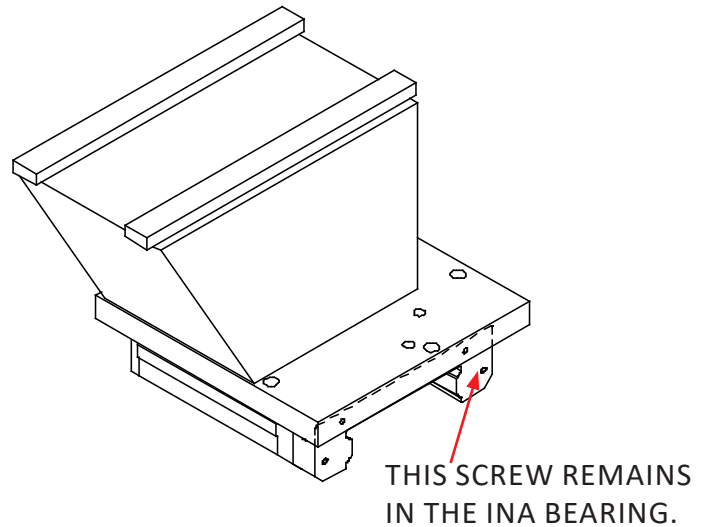

FIG. 4
4. See FIG. 4 which illustrates which parts to return to Foley United. Make certain the bearing shipping guide is in place and then wrap the assembly in heavy paper and tape. Package the two magnet assemblies in a very sturdy shipping container with adequate filler material around and between the magnet assemblies. Note: the magnet assemblies weigh approximately 30 lbs. each and have sharp edges. Make sure to package accordingly.
8. Now reinstall the lock block and bellows using the saved fasteners. The screw indicated in FIG. 4 must be left installed in both sides of the INA bearing or the bearing will come apart. The lock block and bellows are designed to use the remaining three screws on the INA bearing for each side for attachment, avoiding the retained screw in the bearing.